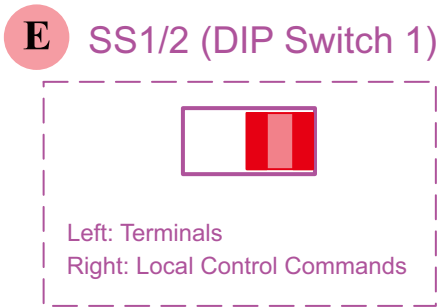

Figure 2 SS1/2 Position under Local Control Command
- 1. In Local Control Mode (set DIP switch SS1/2 to the right side, as shown in Figure 2 "SS1/2 Position under Local Control Command"), then press the start button.